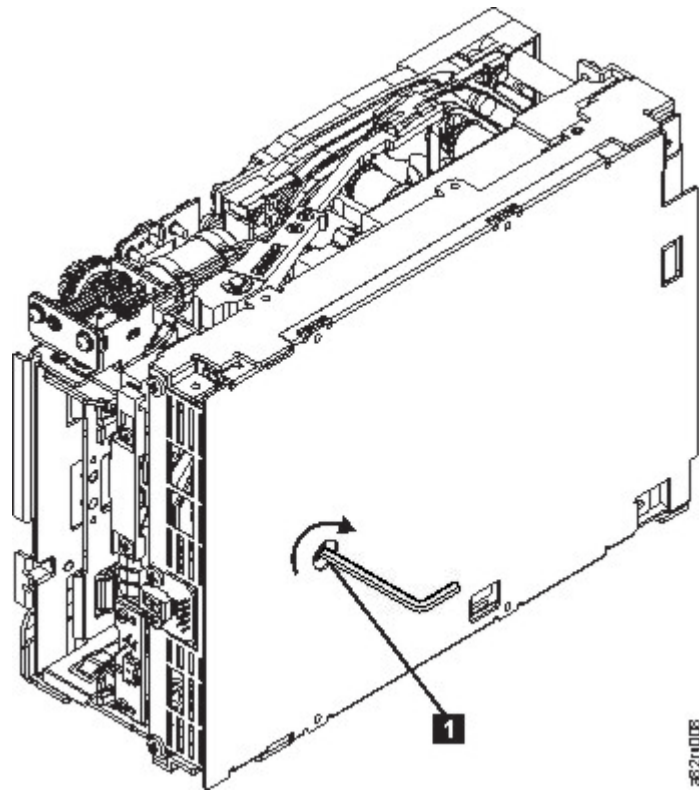

Figure 113. The hex wrench rewinds tape into cartridge
3. From the bottom of the drive, locate the access hole (1 in Figure 113 on page 189).
Note: Be sure to keep tension on the tape as the LBA is drawn into the cartridge by using a hex wrench as shown in Figure 113 on page 189.